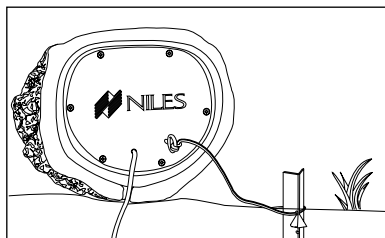

Figure 13 Security Stake Driven into Ground
6. Pick a spot in the ground which the loudspeaker will cover and drive the security stake all the way into the ground until the cable holder is completely under the surface of the ground, as shown in **Figure 13**.